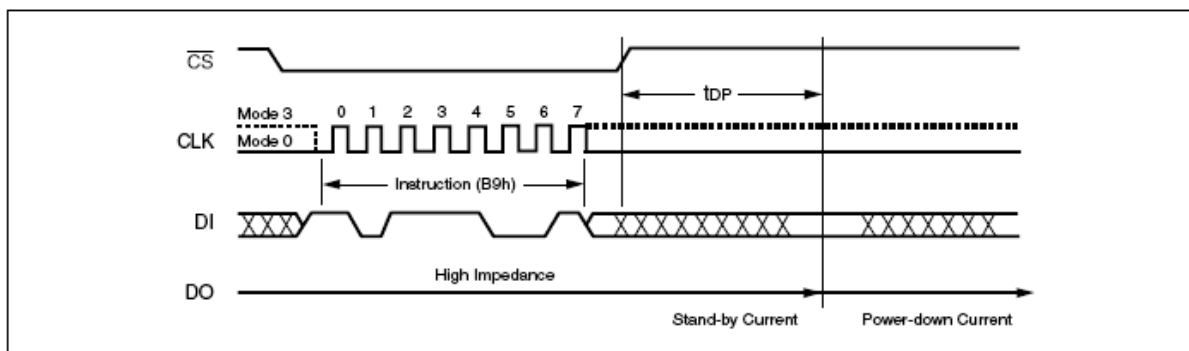

Figure 14. Deep Power-down Instruction Sequence Diagram
The instruction sequence is shown in Figure 14. Chip Select (CS#) must be driven High after the eighth bit of the instruction code has been latched in, otherwise the Deep Power-down (DP) instruction is not executed. As soon as Chip Select (CS#) is driven High, it requires a delay of t_{DP} before the supply current is reduced to ICC2 and the Deep Power-down mode is entered.